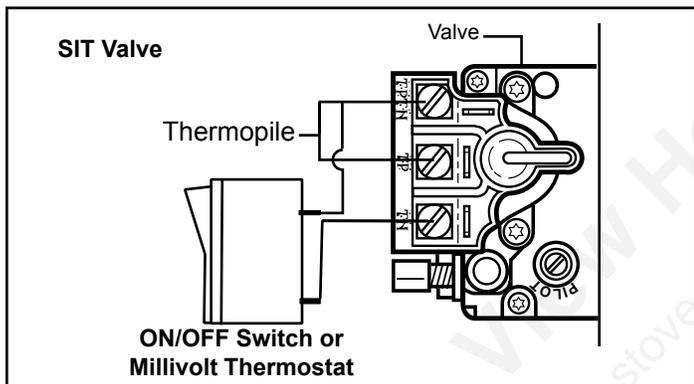

Figure 8 - Install wiring to switch before connecting to valve.
3. Attach wires to valve terminals. (Figure 8)